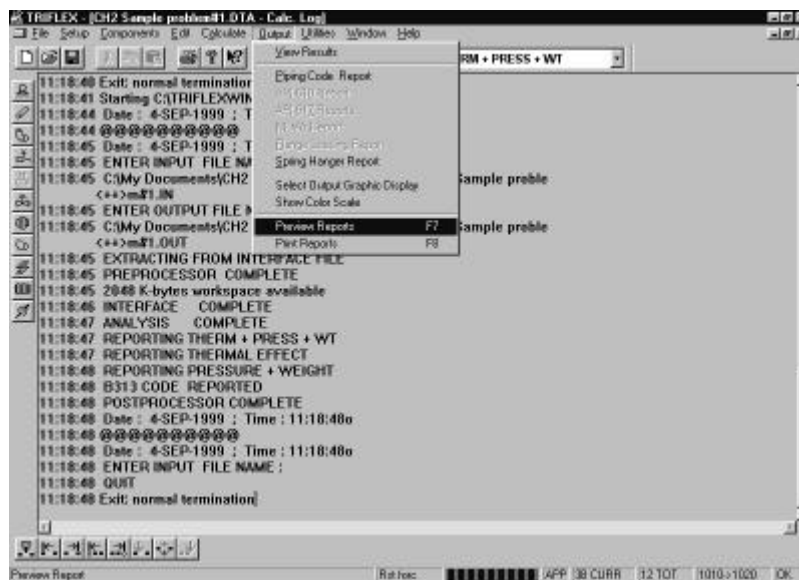

Figure 2.3.6-1 Output Pull-Down Menu
1. From the **Output Pull Down** menu, select **Preview Report** or **Print Report** similar to that shown in Figure 2.3.6-1. The Report Print (Print Static / Dynamic Reports) screen will then appear.
2. In **Print Report** or **Preview Report** screen, select the **Loading Case** and the reports from the **Available Report** group by placing a check in the box adjacent to each desired report as shown in Figure 2.3.6-2.